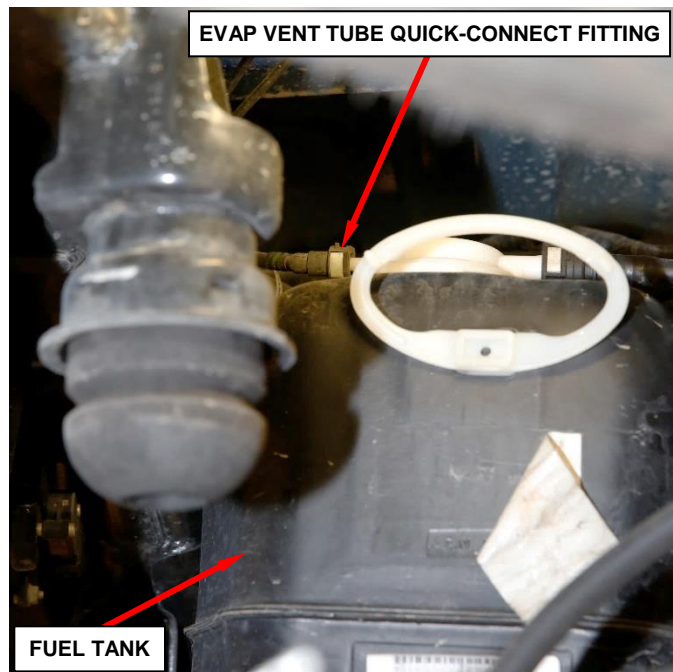

Figure 13 – EVAP Vent Tube Quick-Connect Fitting at Rear of Fuel Tank
32. Disconnect the EVAP vent tube quick-connect fitting at the rear of the fuel tank (Figure 13).
72. Connect the EVAP vent tube quick-connect fitting at the rear of the fuel tank (Figure 13).